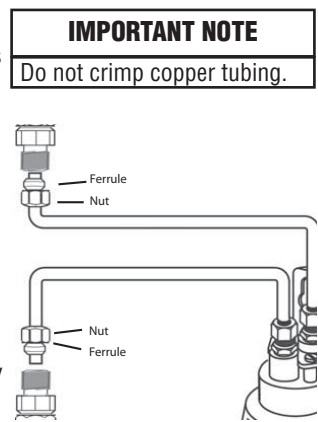

Figure 10
10. Connect both pieces of tubing to filter and water tube as shown with compression fittings. **Do not over-tighten nuts.** (Figure 10)